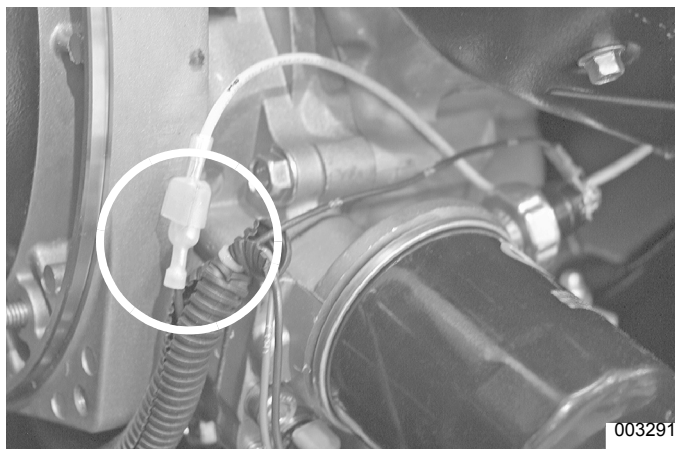

Figure 5-19. Wire 18 (410 Engine)
3. See Figure 5-19. Disconnect Wire 18 from magneto.